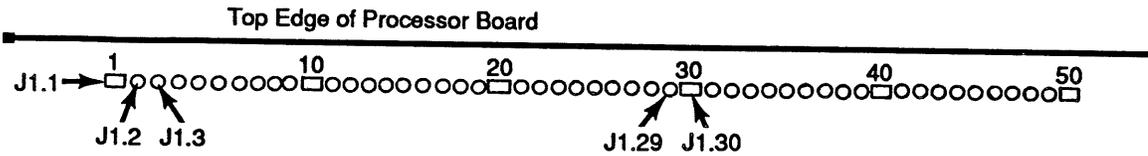

Figure 4-5. Processor Board Test Point Locator.
- 2) Use the voltmeter to check the following test points on Processor Board (A4). See Figure 4-5 for test point locations.